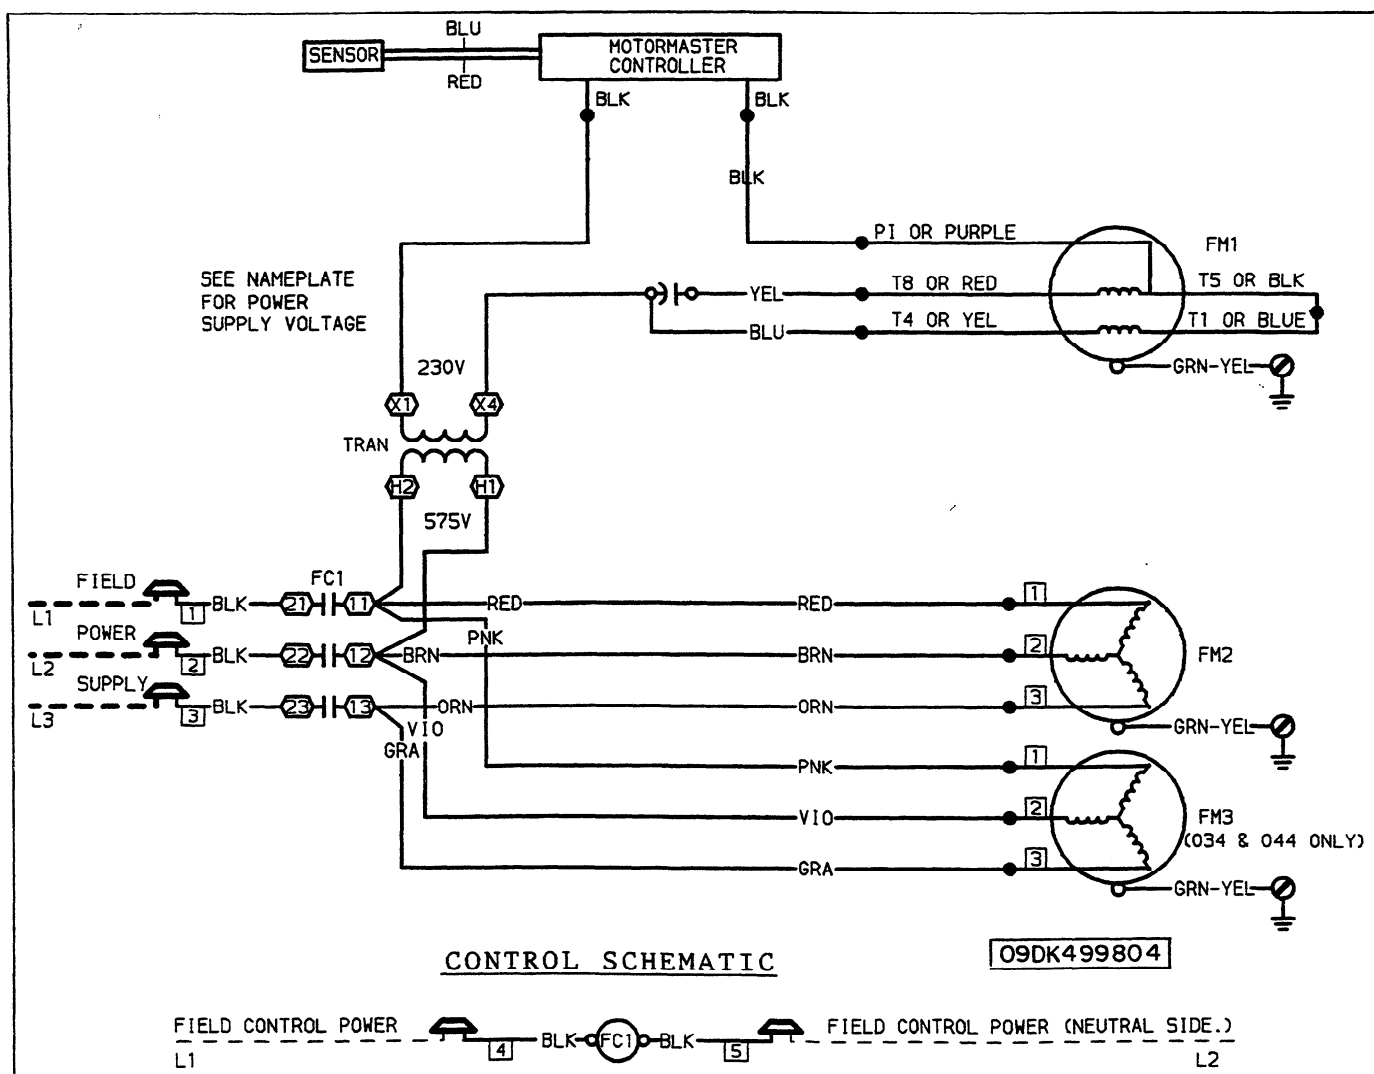

Fig. 9 – Motormaster® Control; 575-Volt Units
2. Connect field-supplied wire from FC1 terminal 11 to the primary side of the transformer. See Fig. 9. Connect a field-supplied wire from FC1 terminal 12 to the other primary of the transformer.
3. Run field-supplied wire from the secondary of the transformer to the capacitor. Run field-supplied wire from the other secondary of the transformer to one of the black wires on the controller. See Fig. 9.